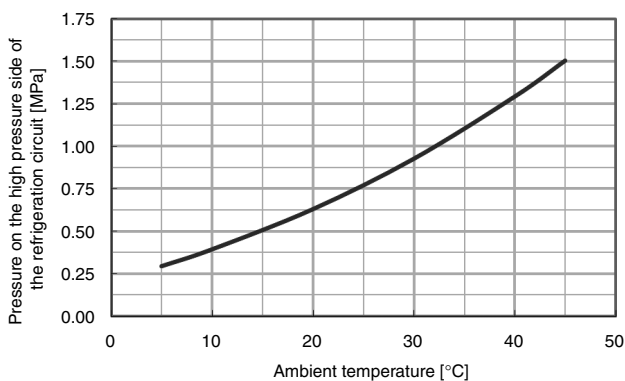

Fig. 4-47 Ambient temperature and refrigerant circuit pressure
- (1) Measure the ambient temperature (room temperature).
- (2) Check the pressure shown for “Ph: Refrigerant circuit pressure on the high pressure side” in the “Check Monitor Menu” of the Thermo-Chiller.
- (3) If the measured point is lower than the values shown in the graph in “Fig. 4-47: Ambient temperature and refrigerant circuit pressure”, it means there is refrigerant leakage caused.